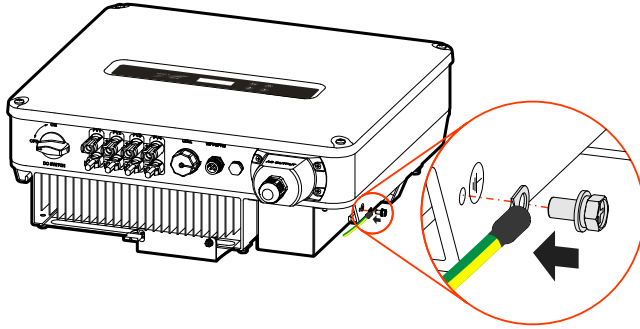

Figure3-15 External grounding wire connection
Step 2 Connect the crimped grounding wire to the external grounding terminal by stainless steel combination bolt M5*12, as shown in Figure3-15.